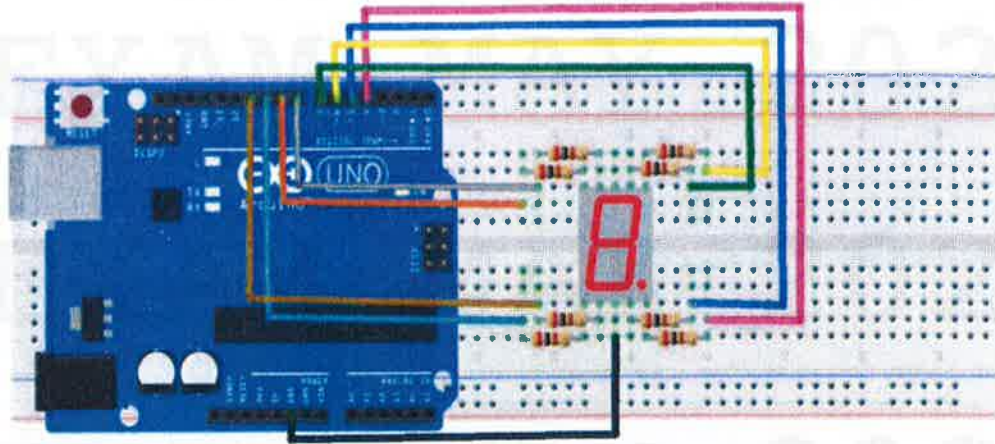

FIGURE Q5: 7-Segment Display Circuit
5. Consider **FIGURE Q5** that illustrates the circuit for controlling a 7-segment display unit using Arduino board.